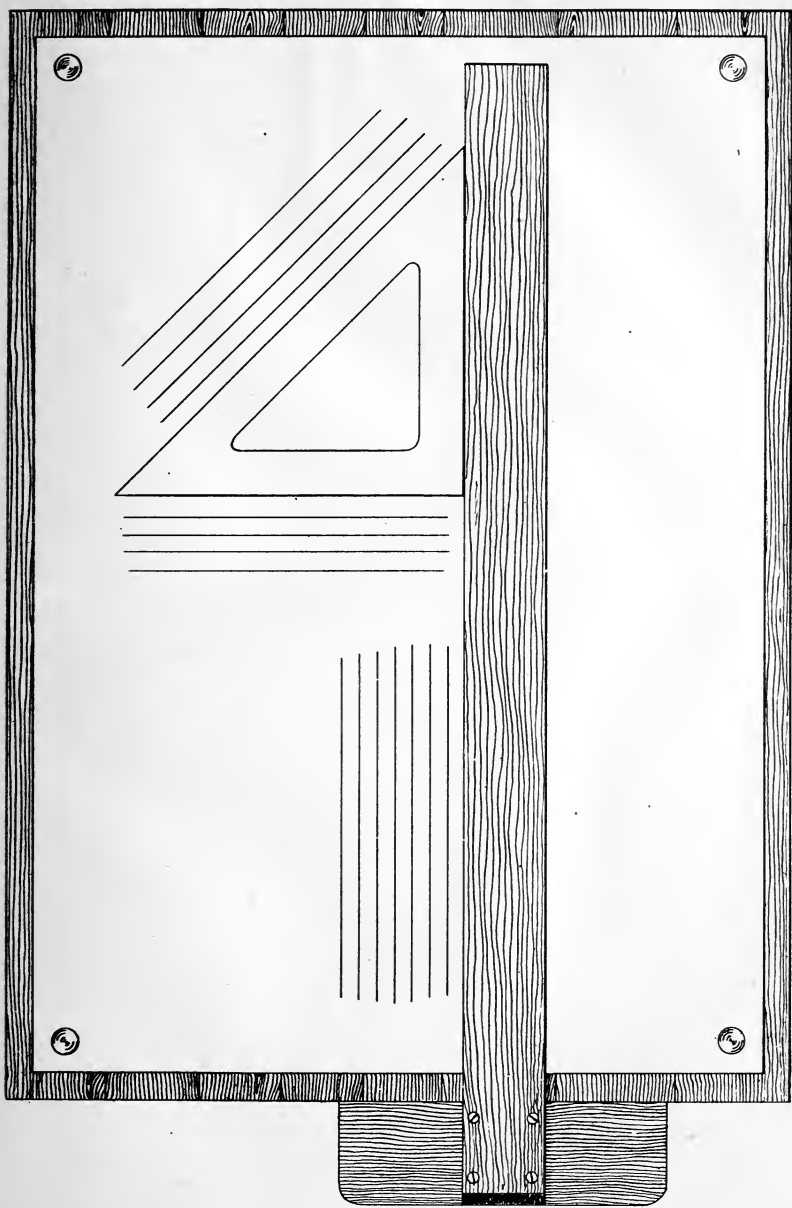

Fig. 4. Drawing Board with T-square and Triangle in place showing Method of Drawing Horizontal, Vertical and Inclined Lines.
5. T-SQUARE. The T-square (Fig. 4) consists of a long, light blade attached at right angles to a head which slides along the left side of the drawing board. All horizontal lines are drawn by moving the pencil along the top edge of the T-square, whose head is held snug against the left edge of the board. Do not hold the head against the bottom edge of board to draw vertical lines.
All vertical or slanting lines are drawn with the aid of triangle (Fig. 4).